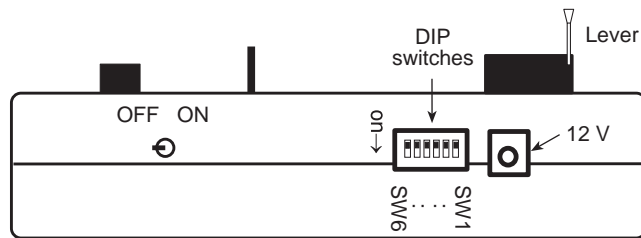
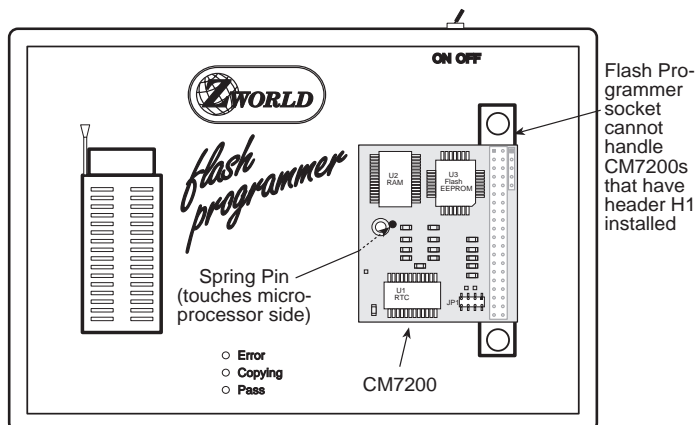

Figure I-3. Flash Programmer Side View Showing DIP Switches and Power Supply Input
**Figure I-4. Positioning 28-pin and 32-pin EPROMs in Flash Programmer ZIF Socket**
Four DIP switches (SW1–SW4) on the Flash Programmer’s back-panel (see Figure I-3) set the size of the master EPROM. SW5 indicates whether the Flash Programmer will copy an application to flash EPROM or whether the Flash Programmer will copy the BIOS.
1. Place the Flash Programmer's power switch in the off position and connect the 12 V power supply to the power jack on the Flash Programmer's rear panel as shown in Figure I-3.
2. Raise the Flash Programmer's ZIF socket's lever (see Figure I-3) to the vertical position. Place the master EPROM in the 32-pin ZIF socket of the Flash Programmer. Pin 1 of the EPROM should be in the upper part of the socket. If you are using a 28-pin EPROM, position the IC at the bottom of the socket as shown in Figure I-4 so that the top four socket pins are empty.